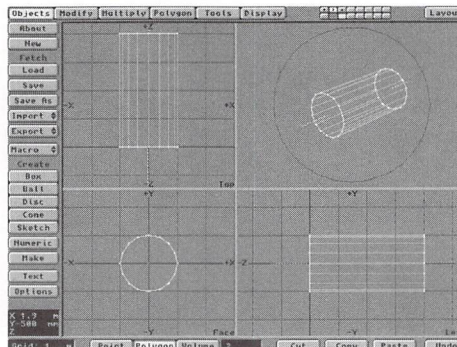

Figure 4: Preparing to cut off the ends of the lightbeam cylinder
- Begin by going into Modeler and, using the Disc tool, extruding a cylinder, making sure that the center of one of the ends of the cylinder is at 0,0,0. For this example, let's extrude a cylinder four meters in length. Select both disc polygons at either end of the cylinder (Figure 4) and cut them off, leaving just a hollow tube. Set the surface name of this object to "OscLightSurface" and save, then load it in Layout. (Amiga users can export it to Layout). Call this object "OscBeam.lwo."